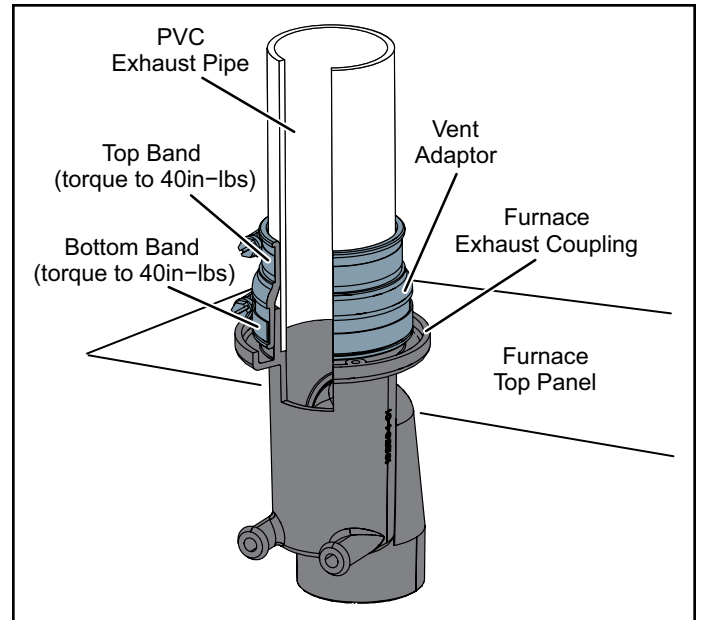

Figure 20. Vent Adaptor to Exhaust Coupling
NOTE: *Exhaust coupling must be installed with provided appliance adapter. See Figure 20.*
See Figure 20, Figure 23 and Figure 24
4. Tighten both top and bottom bands to 40 in lbs. See Figure 20.